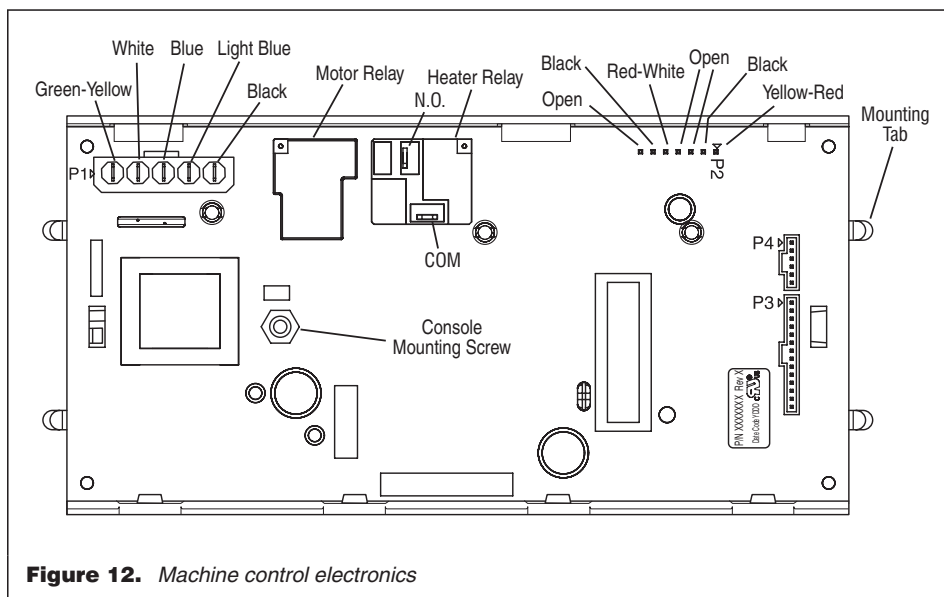

Figure 12. Machine control electronics
- Disconnect the ribbon cables at P3 and P4 on the machine control electronics. See figure 12 on page 7 for connector locations.
- Remove all the wire connections to the machine control board. See figure 12, page 7.